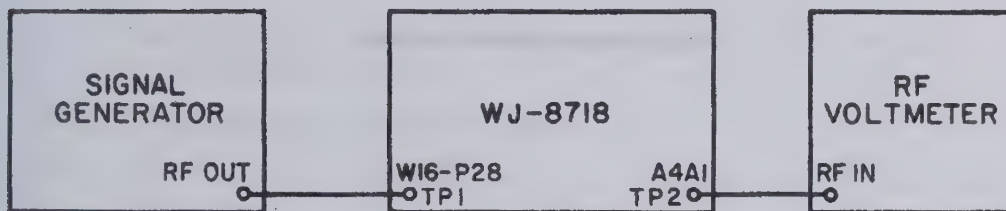

Figure 4-20a. Test Setup, 10.7 MHz Filter Switch Adjustment
1. Disconnect P28, 10.7 MHz input to IF strip (at jack A2J2 of Input Converter). Feed 10.7 MHz unmodulated signal at -50 dBm level, into P28 or TP1 input of IF motherboard as shown in Figure 4-20a.